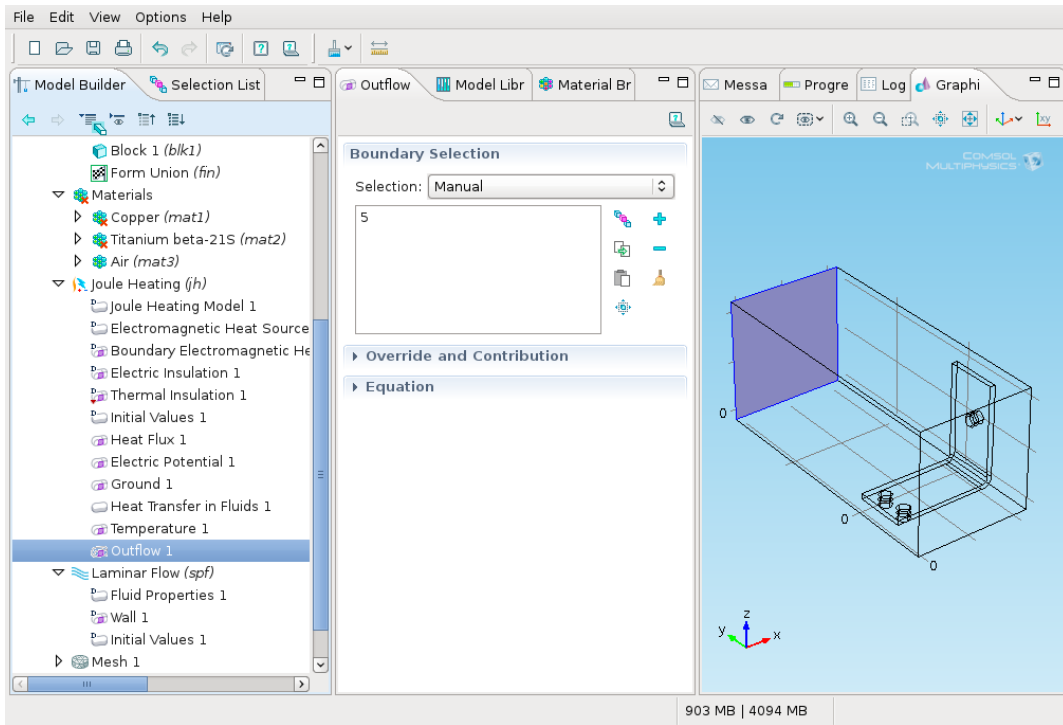

Figure 18: Outflow boundary condition of the air flow.
- 9 Add boundary 5 into the outflow selection list (Fig. 18).